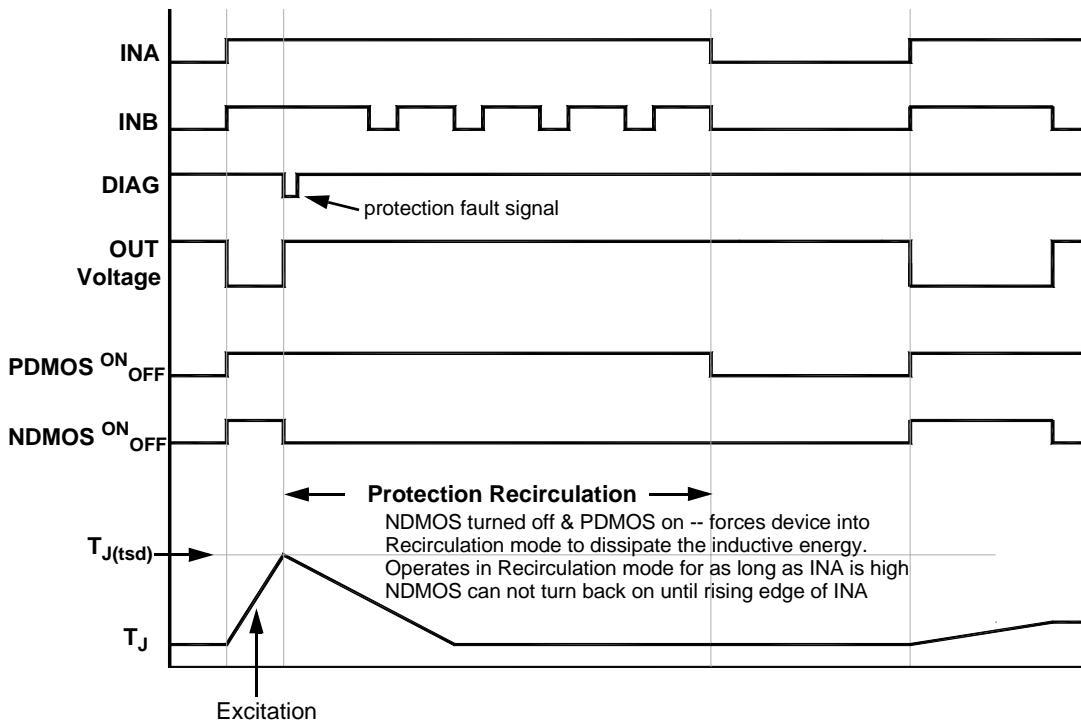

Figure 3. Thermal Shutdown
**Thermal Shutdown** (see figure 3) The FDMS2380 is internally protected against over-temperature conditions by a temperature sensing circuit. When the FDMS2380 junction temperature exceeds the protection limit,  $T_{J(ts)}$ , thermal shutdown of the device will occur. Upon entering thermal shutdown a 2  $\mu$ s to 10  $\mu$ s protection fault signal is activated in the DIAG pin. In thermal shutdown, the NDMOS is switched off and the FDMS2380 operates in recirculation to discharge the energy in the load coil and minimize power dissipation. The FDMS2380 will remain in this state until INA is taken to logic 0. A protection fault signal will be issued each time INA is brought to a logic high while the over-temperature conditions exists.